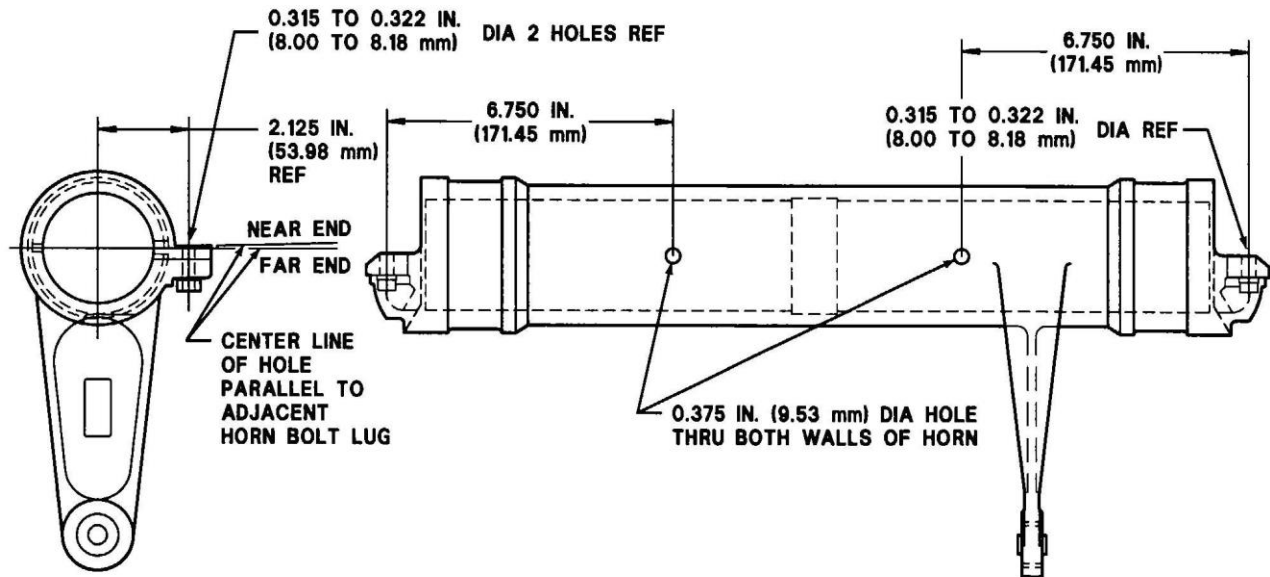

Figure 67-20. Elevator Horn Hole Location
**HORN MUST BE MACHINED IN ACCORDANCE WITH FIGURE 67-20. FAILURE TO COMPLY WILL RESULT IN LOSS OF INTERCHANGEABILITY WITH FUTURE SPARE PARTS.**
67.5.2.2.9.1 Drill 0.375 to 0.376 inch (9.53 to 9.55 mm) diameter hole through both walls of elevator horn. Hole to be 6.750 inches (171.45 mm) inboard of center of elevator attach bolt hole and through center of horn parallel to face of adjacent elevator attach lug (Figure 67-20). Repeat procedure on opposite end of horn. Deburr holes.